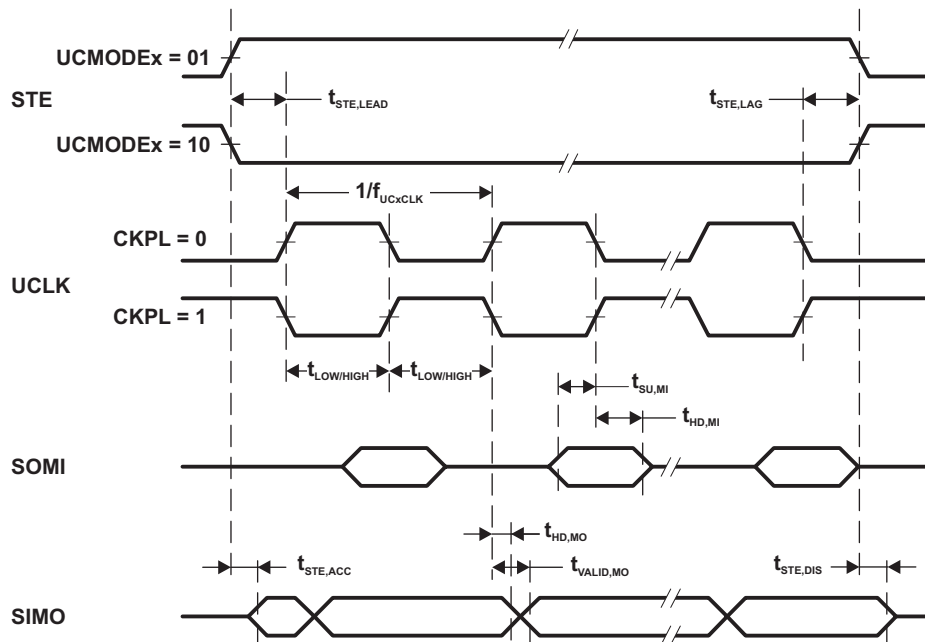
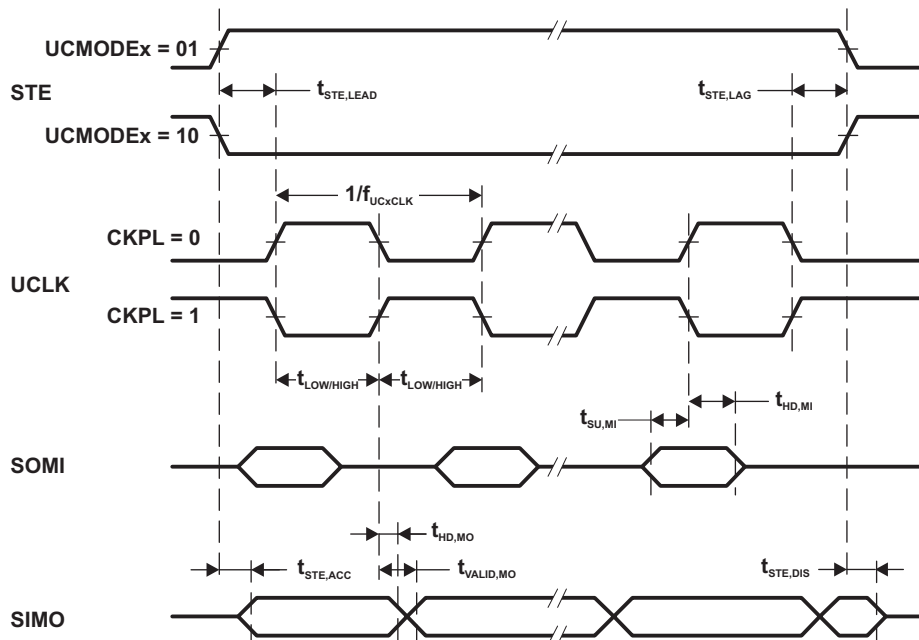

Figure 5-15. SPI Master Mode, CKPH = 0
Figure 5-16. SPI Master Mode, CKPH = 1
- (1) $f_{UCxCLK} = 1/2t_{LO/HI}$ with $t_{LO/HI} = \max(t_{VALID,MO(eUSCI)} + t_{SU,SI(Slave)}, t_{SU,MI(eUSCI)} + t_{VALID,SO(Slave)})$. For the slave parameters $t_{SU,SI(Slave)}$ and $t_{VALID,SO(Slave)}$, refer to the SPI parameters of the attached slave.
- (2) Specifies the time to drive the next valid data to the SIMO output after the output changing UCLK clock edge. Refer to the timing diagrams in Figure 5-15 and Figure 5-16.
- (3) Specifies how long data on the SIMO output is valid after the output changing UCLK clock edge. Negative values indicate that the data on the SIMO output can become invalid before the output changing clock edge observed on UCLK. Refer to the timing diagrams in Figure 5-15 and Figure 5-16.